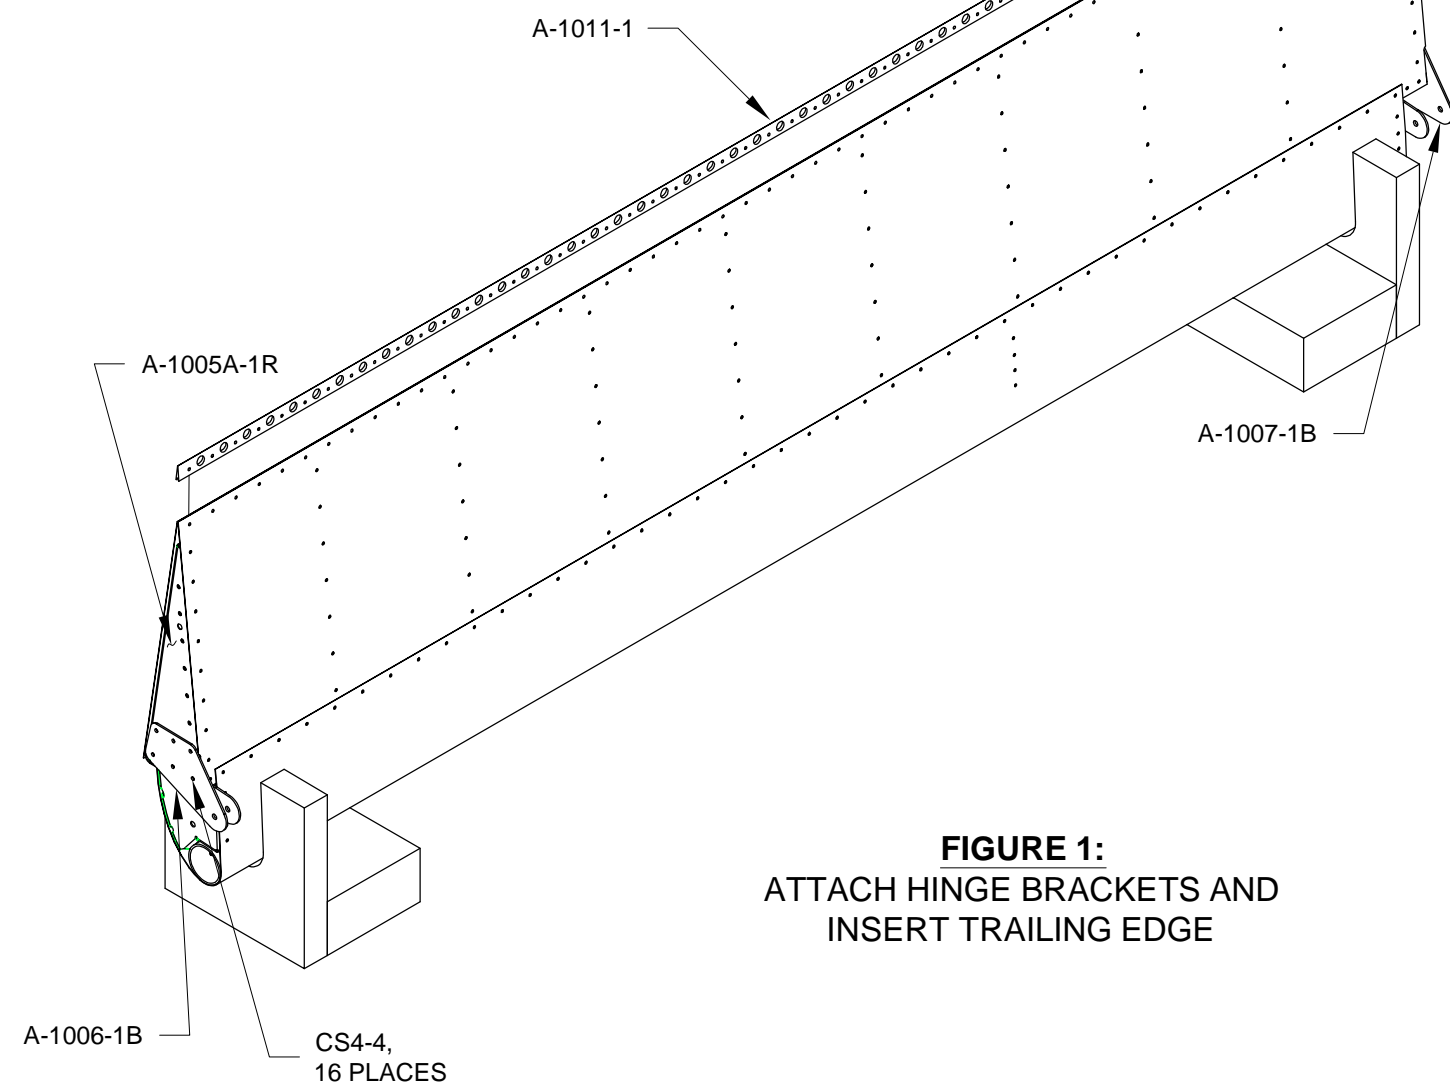

FIGURE 1:
Step 2: Cleco the A-1005A-1L and A-1005B-1L Main Ribs together. Cleco the A-1005A-1R and A-1005B-1R Main Ribs together then rivet all main ribs as shown in Figure 1.
Remove the A-1011 Trailing Edge as shown in Figure 1.